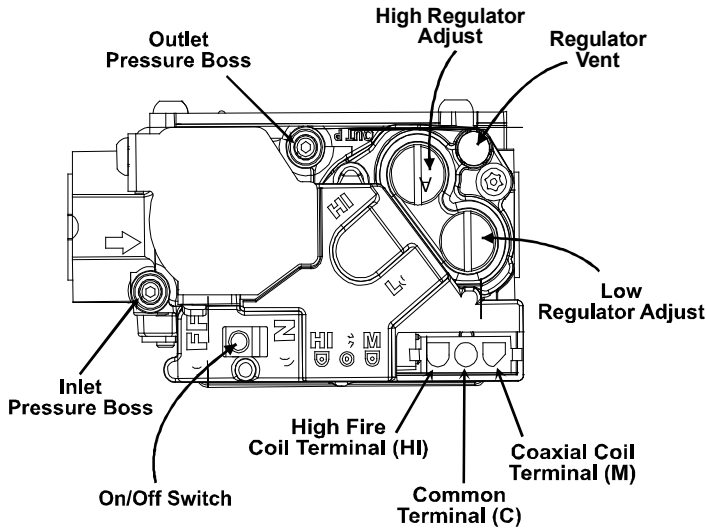

FIGURE 2
12. Using a $\frac{3}{32}$ " Allen wrench, loosen the inlet pressure tap screw one (1) turn only (DO NOT REMOVE). Attach a $\frac{5}{16}$ " hose to the inlet pressure tap boss. Connect the other end of the hose to a manometer capable of reading pressure of 0 to 20 inches water column (see Figure 2).